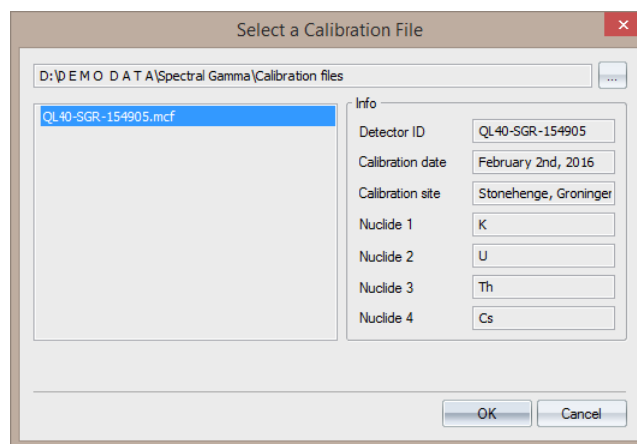

Figure 5 - Calibration file selection and info
Click the options button (5) to load the calibration file corresponding to the logging tool that recorded the data. A separate dialog box opens (**figure 5**).